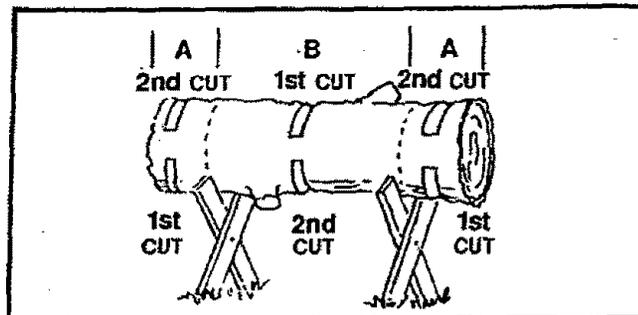

Figure 31
5. BUCKING — USING A STAND (Figure 31):